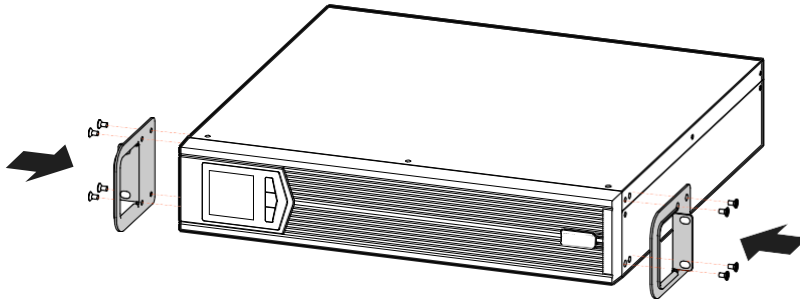

Figure3-1 Install angle iron
Step 1 Fasten the two angle irons onto the two sides of the UPS by 4 sunk screws, as shown in Figure3-1.